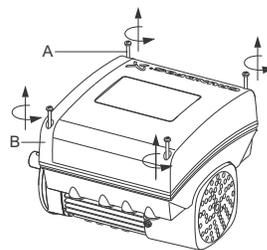

Fig. 12 Removing the terminal box cover
1. Loosen the four screws (fig. 12, A) and remove the terminal box cover (fig. 12, B).
11. Fit the terminal box cover (fig. 12, B) and cross-tighten the four mounting screws (fig. 12, A) to 6 Nm.